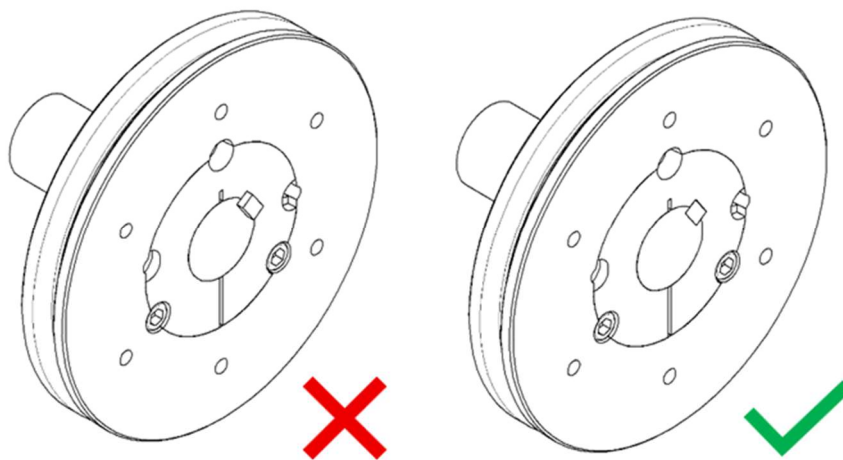

Figure 14: Taper locking bush key
- Note that when installing the taper locking bushes, a key must always be provided, and it must not protrude from the coupling hub or beyond the shaft end (Figure 14).